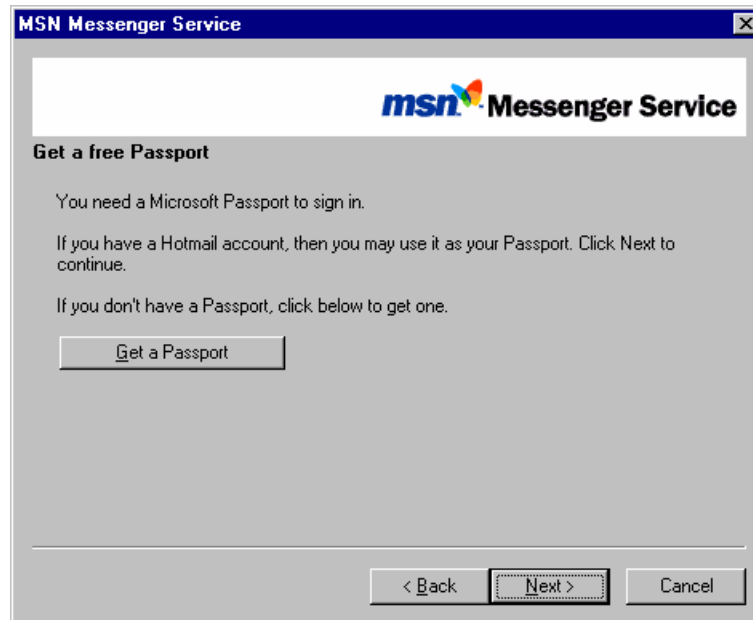

Figure E.3. Signing up for a Passport
- The next screen will ask you to sign in using a Microsoft Passport, as shown in **Figure E.3**. If you have a Hotmail user account with Microsoft, you can use that account as your Passport. If you do not have a Passport, click the **Get a Passport** Button. This will take you to the MSN Messenger Service Web site, where you can sign up for a Passport. Enter the required information in the user profile fields, and follow the instructions provided.